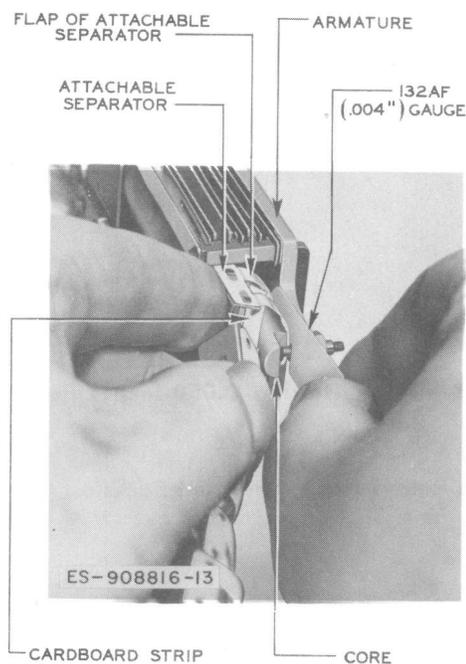

Fig. 13—Method of Applying Attachable Separator on Core
(2) Insert the 132AF (0.004 inch) gauge into the armature gap as shown in Fig. 13 to guide the flap of the attachable separator into position. This is done to prevent the flap of the separator from snagging on the stop discs. Hold the cardboard strip of separators in the left hand with the flap of the first separator towards the core of the relay and the free edge of the flap downward. Straighten the right-hand end of the strip. Using the index finger of the left hand, slide the first separator approximately 1/8 inch over the end of the strip and insert the free edge of the flap between the gauge and the core. Take care that the flap is entirely behind the adjusting stud, and that the front and rear corners of the flap enter the armature gap at the same time. Slide the flap into position and, while holding the separator in place with the index finger of the left hand as shown in Fig. 13, withdraw the strip. Turn the metal clip in a counterclockwise direction until the ears are in a vertical position. Snap the metal clip over the core so the ears rest against the step on the core, and then remove the gauge. Proceed as covered in (4).
Fig. 13, withdraw the strip. Turn the metal clip in a counterclockwise direction until the side of the metal clip having the stamped designation (thickness of separator) is in the vertical position. Snap the metal clip over the core, and then proceed as covered in (4).
(4) With the separator in place, make sure that the edges of the window of the flap do not touch the stop discs and that there are no wrinkles or snags in the flap. If there are wrinkles or snags, remove the separator as covered in (1) and replace it.